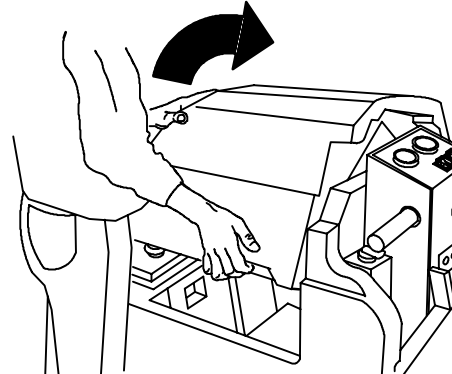

FIG. 1
1. Hinge open recovery tank to access battery compartment (Figure 1).